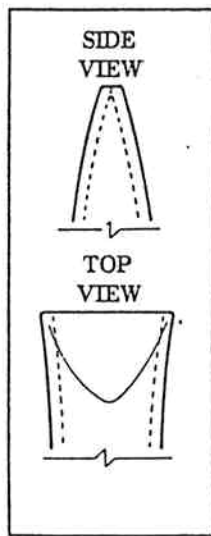

Fig. 2-16 Approximate Shape of Lacing Ends
3. Lacing ends must be flattened by pounding into the approximate shape shown in Fig.2-16 on page 2-10.